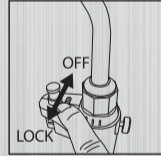

Fig. 2
4. Turn the gas adjustment knob counter-clockwise about 1/2 to 1 turn, and then push the safety lock(Fig.2) lever to OFF.